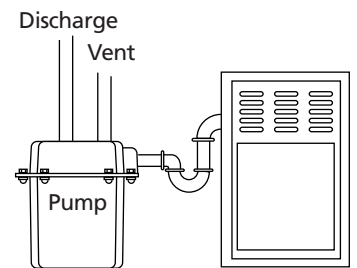

Figure 7 – Typical installation to remove air conditioner condensate or dehumidifier water
1. Install inlet pipe in opening as shown. Use RTV sealants or Plasto-Joint Stik* to seal threads. See Figures 7, 8, and 9, page 4 and 5, for typical installation arrangements.